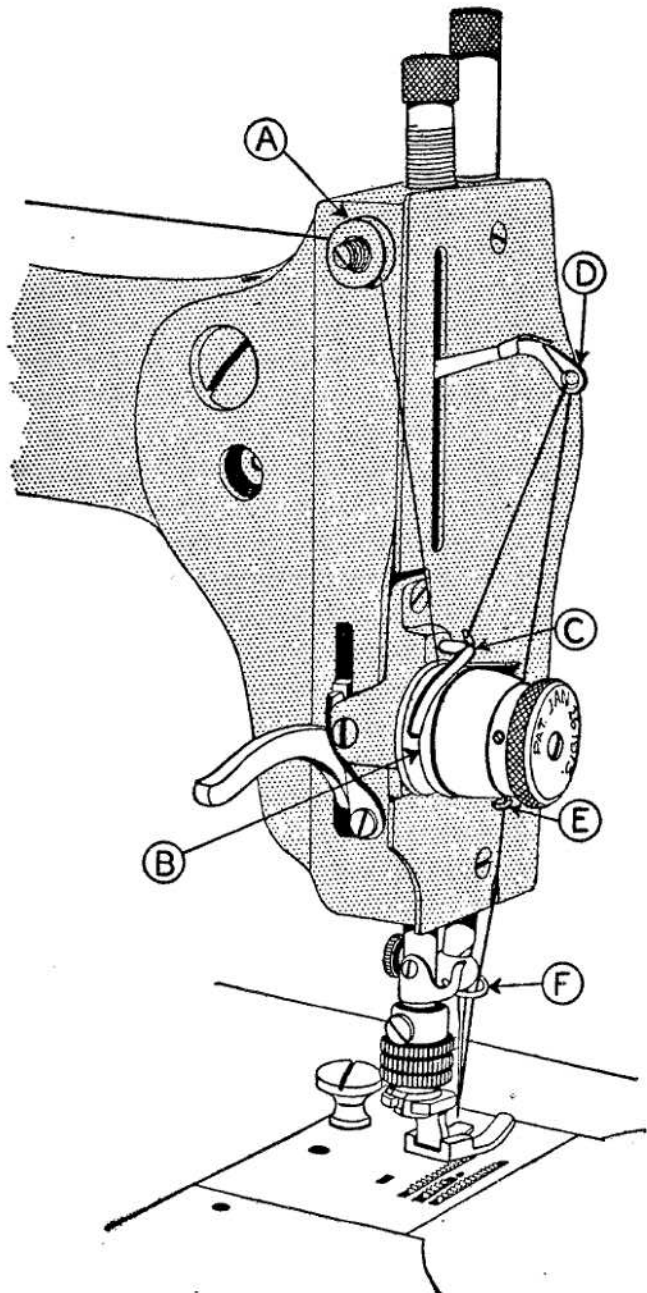
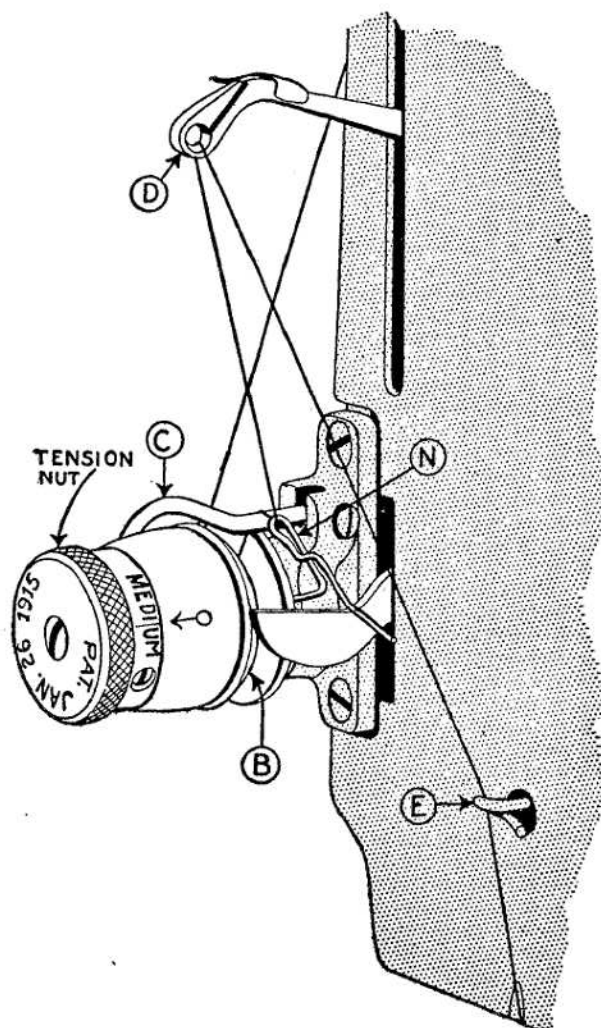

Fig. 3
Fig. 11
First raise the needle bar and takeup finger to their highest point and raise the presser bar lifter. Place the spool on the central spool pin with the thread leading from the back of the spool; draw the thread between the discs in the thread check (See A, Fig. 3) then down and around between the tension discs (B), then up and back of the curve guide (C) through the loop of the thread controller wire (N, see Fig. 11) up and through the
This machine is fitted with an automatic upper tension and when it leaves the factory is properly adjusted to handle different sizes of thread from 30 to 150 making a medium tight stitch on all materials ordinarily used. This adjustment is determined by an expert and is obtained by setting the adjusting nut so the line through the word "Medium" is opposite the arrow as shown in Fig. 11. To permit the operator to obtain a stitch a trifle looser or tighter the tension nut may be turned in either direction. To increase the tension turn the Tension Nut toward you at the top or so the word "Tight" comes toward the arrow; to diminish the tension turn the Tension Nut in the opposite direction, or so the word "Loose" turns forward the arrow. Bear in